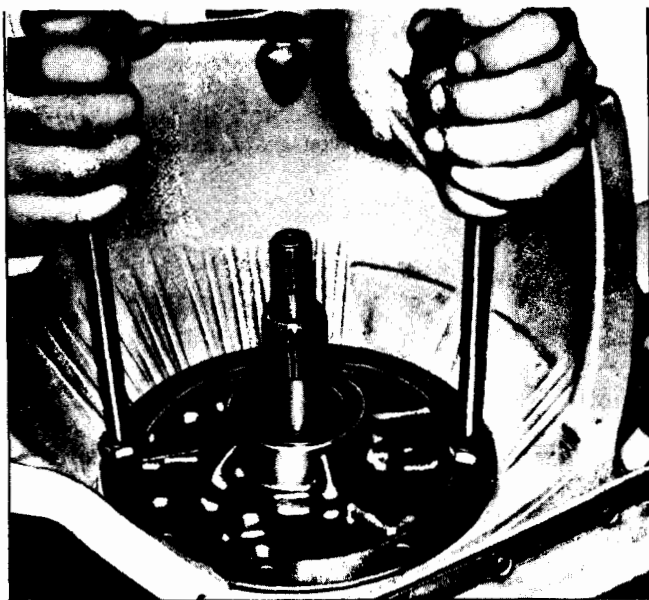

Fig. 7F-52 Removing Oil Pump Assembly
5. On the weight side of governor, remove "E" clip from governor shaft and remove governor shaft and valve from opposite side of governor (Fig. 7F-50).